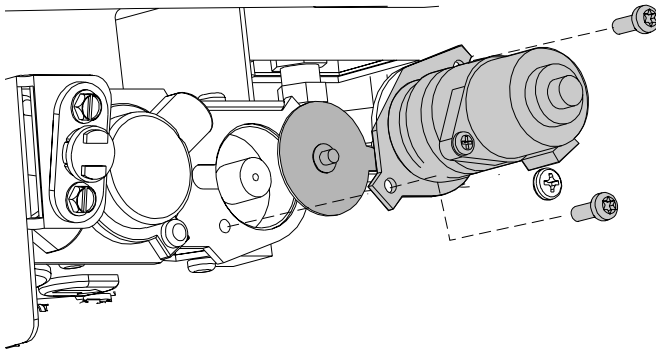

Figure 7.7.
10. Replace the Valve Regulator. Fig. 7.7. Using a Torx T-20 screwdriver, remove the screws from the front of the original regulator. Remove the regulator components and replace them with the one from the conversion kit.